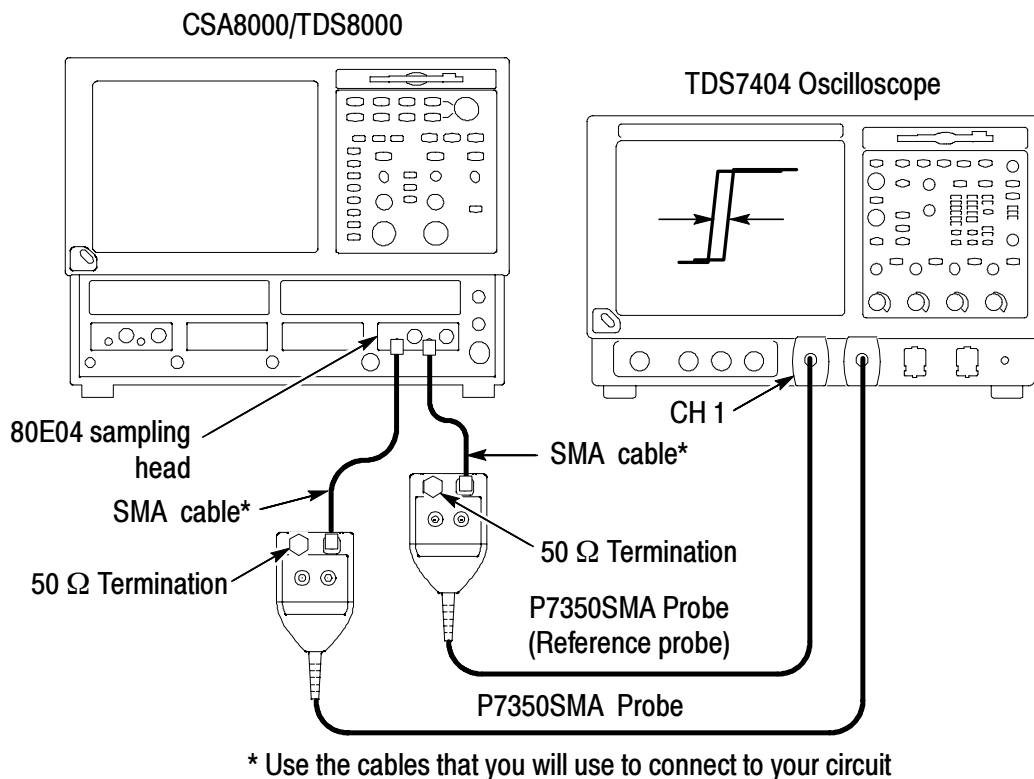

Figure 18: Deskewing two P7350SMA probes
Figure 18 on page 36 shows a setup for checking and deskewing two probes. Deskewing aligns the time delay of the signal path through the oscilloscope channel and probe connected to that channel, to the time delay of other channel/probe pairs of the oscilloscope.
1. Set up the equipment as shown in Figure 18 and let it warm up for 20 minutes, but don't make any connections to the TDR outputs yet.
3. Attach the probes to the TDR outputs as shown in Figure 18.